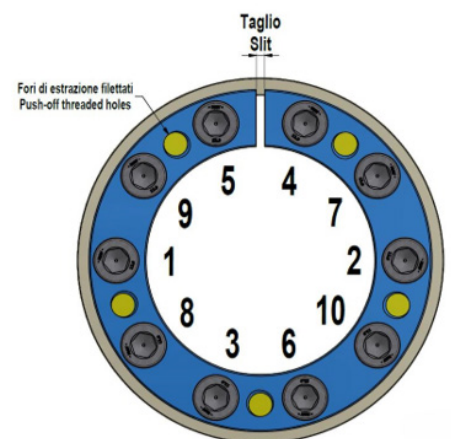

Fig. 3
4. Tighten the screws by hand in a crosswise pattern, starting with a screw located at 90° approx. respect to slit (fig. 3), until fitting clearances with shaft and hub bore are bridged and connected components are slightly locked, while making sure that hub is aligned as required using a dial indicator. **Better centering of hub from the beginning of installation is essential for better centering when installation is completed.**
5. Use a torque wrench set approx. 5% higher than specified tightening torque (Ma), or reduced within admissible value. **Progressively tighten the screws in a crosswise pattern (fig. 3), using approx. 1/4 turns for several passes until 1/4 turns can no longer be achieved.**